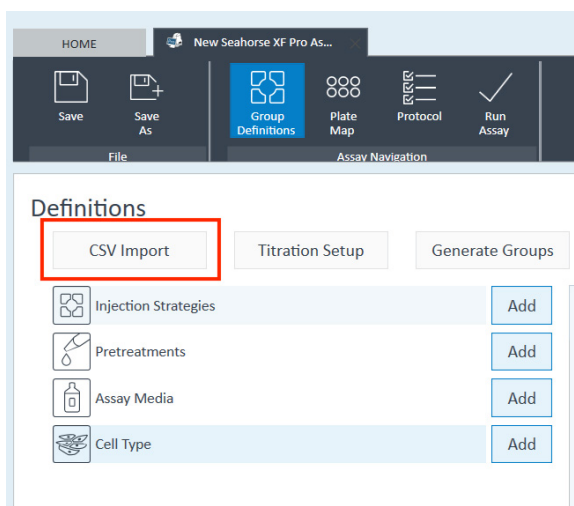

Figure 17. CSV Import button..
- 3 On the Group Definitions view, click **CSV Import** (**Figure 17**)